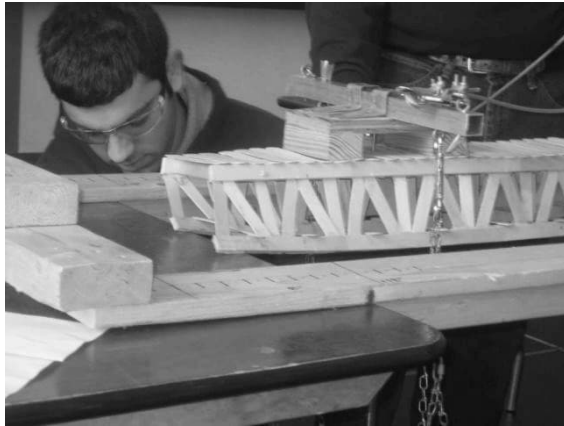

Figure 3a: Different Ways to Load the Bridge
- The bridge shall have a roadway that either runs through the bridge or runs over the top side of the bridge. The roadway must be along the entire length of the bridge so that a scale truck (4” wide by 4” tall by 8” long, with a transfer bar above, **see figures 3A and 3B**) could drive from start to end over or through the bridge. The roadway does not need to be a continuous surface, but make sure there are strong supports for the truck to be placed on at any point along the bridge roadway length!
- If the roadway goes through the bridge (like a through truss or through arch), the scale truck shall fit along the length of the roadway, and the loading apparatus bars shall extend out the sides of the truck (**see figures 3A and 3B**).